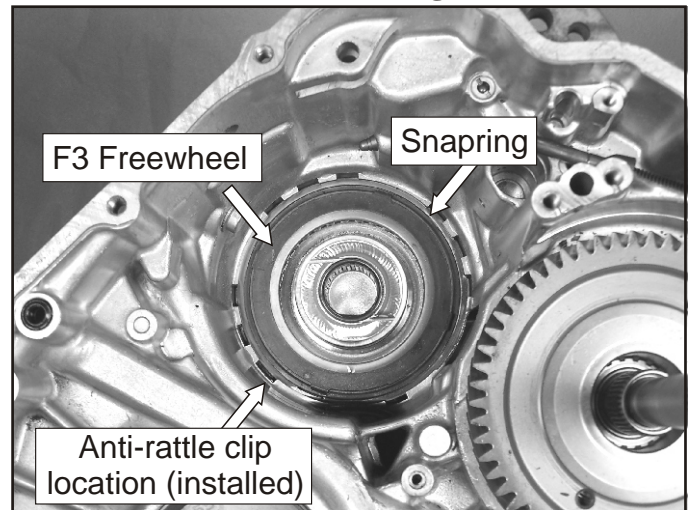

Figure 68
17. Remove the snap ring and pull the F3 freewheel forward as shown in Figure 68.